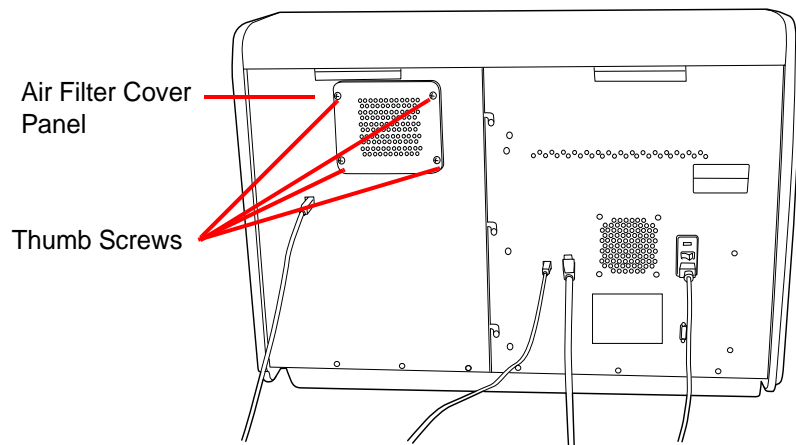

Figure 5-9 Air Filter Location
2. Loosen the four thumb screws at each corner of the air filter cover panel. (Figure 5-9.)